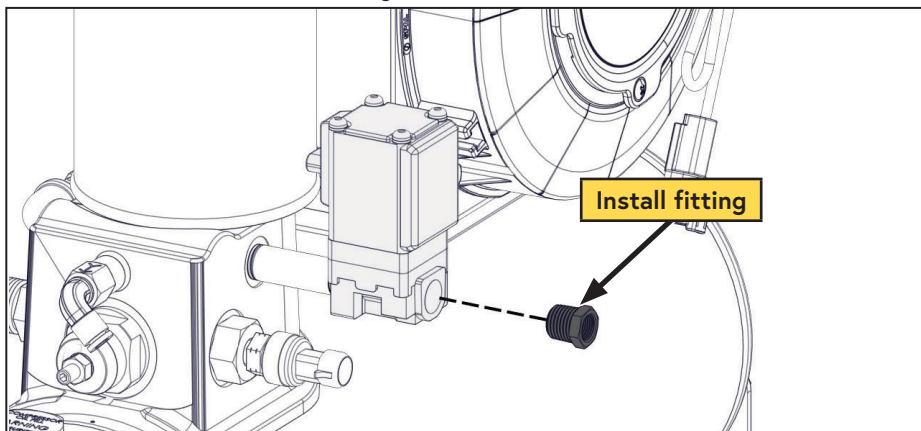

Figure 33 — Install fitting
- Apply Loctite 567 (thread sealing) compound to the supplied fitting and install it into the blowdown solenoid (Figure 33).